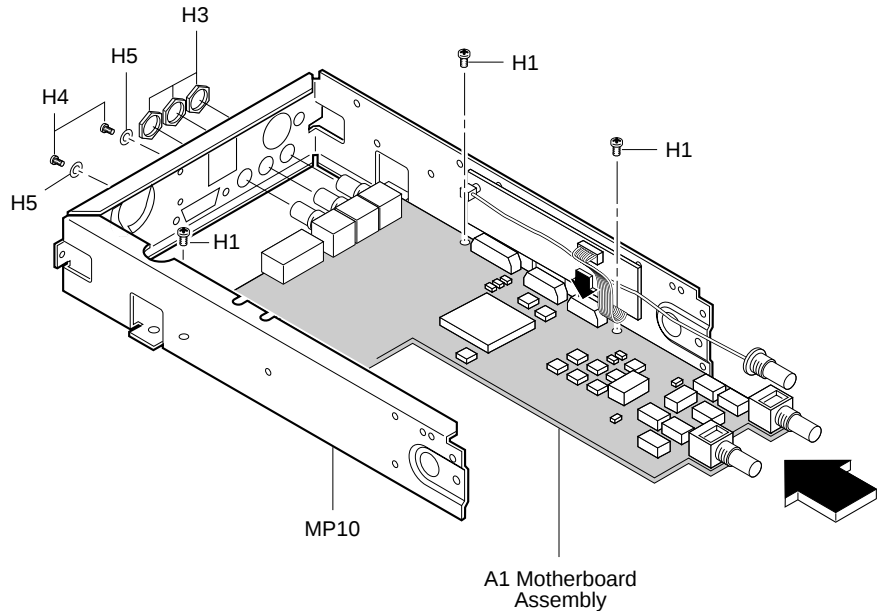

Figure 4-1A. DC Power Input Assembly Retrofitting
- 1 Slide A1 Motherboard Assembly into the new chassis (MP10) as shown in Figure 4-1A.
- 2 Insert but do not tighten the three TORX 15 screws (H1) that attach A1 Motherboard Assembly to the new chassis (MP10) as shown in Figure 4-1A.
- 6 Tighten the three H1 screws, shown in Figure 4-1A, to secure the motherboard to the chassis.**